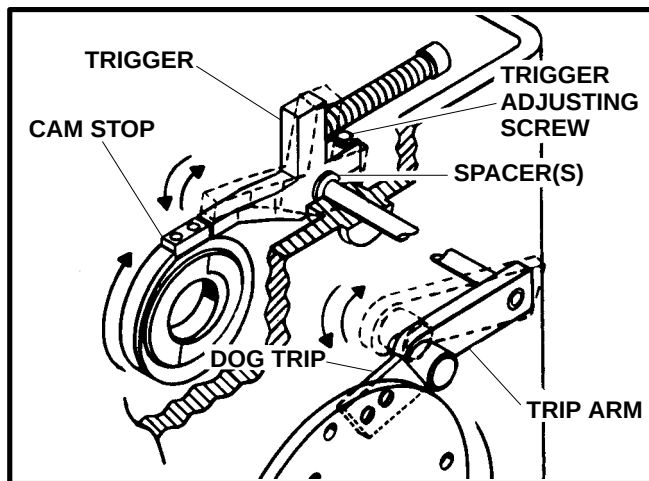

FIGURE 21
5. When all adjustments are made, re-tighten locking screw on trigger (See Figure 21) and run clutch through a few cycles. Determine if the clutch and brake system is working correctly, if not, additional adjustment will be required.